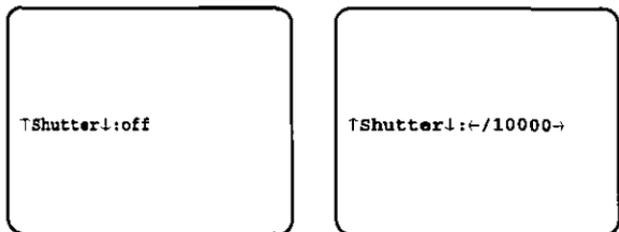

Fig. 6
1. Display the Shutter Menu as shown in Fig. 6 by repeating the previous procedures.